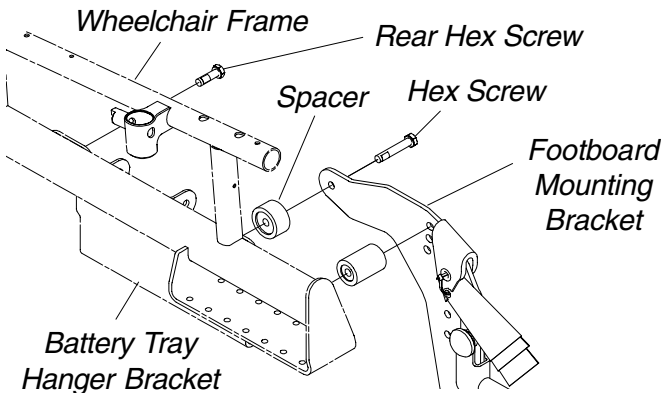

FIGURE 24 - BATTERY TRAY - REPLACING RIGHT BATTERY TRAY HANGER BRACKET
- Remove the hex bolt and locknut that secure one (1) of the battery tray pins to the battery tray.
- Refer to FIGURE 24 to determine mounting hole in the battery tray that corresponds to width of the wheelchair.
Replacing Right Battery Tray Hanger Bracket (FIGURE 24)